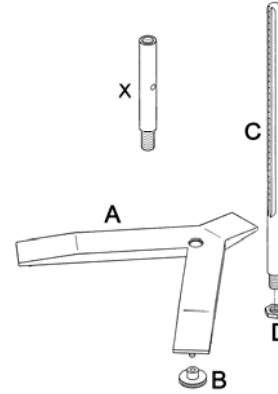

Fig. 10: Mounting the LCP adapter extension.
- Insert the sample container (K) by turning it gently. Fit the spindle together with the lower stopper (M).
- Check the level of the sample. It should be approximately in the middle of the cone, which is connected to the spindle connector(H). Figure 10 shows more information about this
- Place the upper stopper (N) over the sample container.